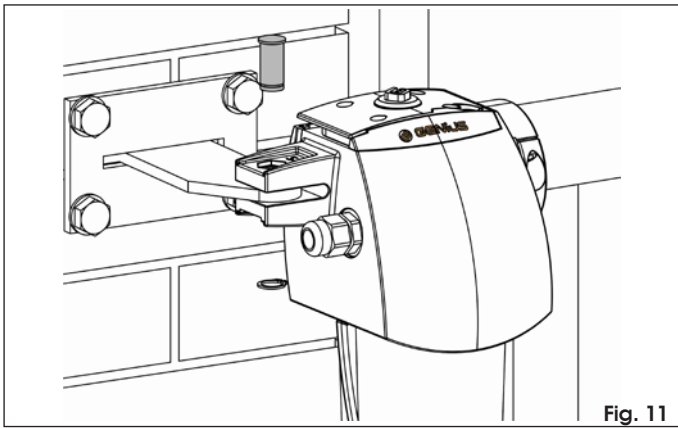

Fig. 11
2. Fasten the operator on the rear bracket you have just secured, using the supplied pins and elastic rings (Fig. 11).